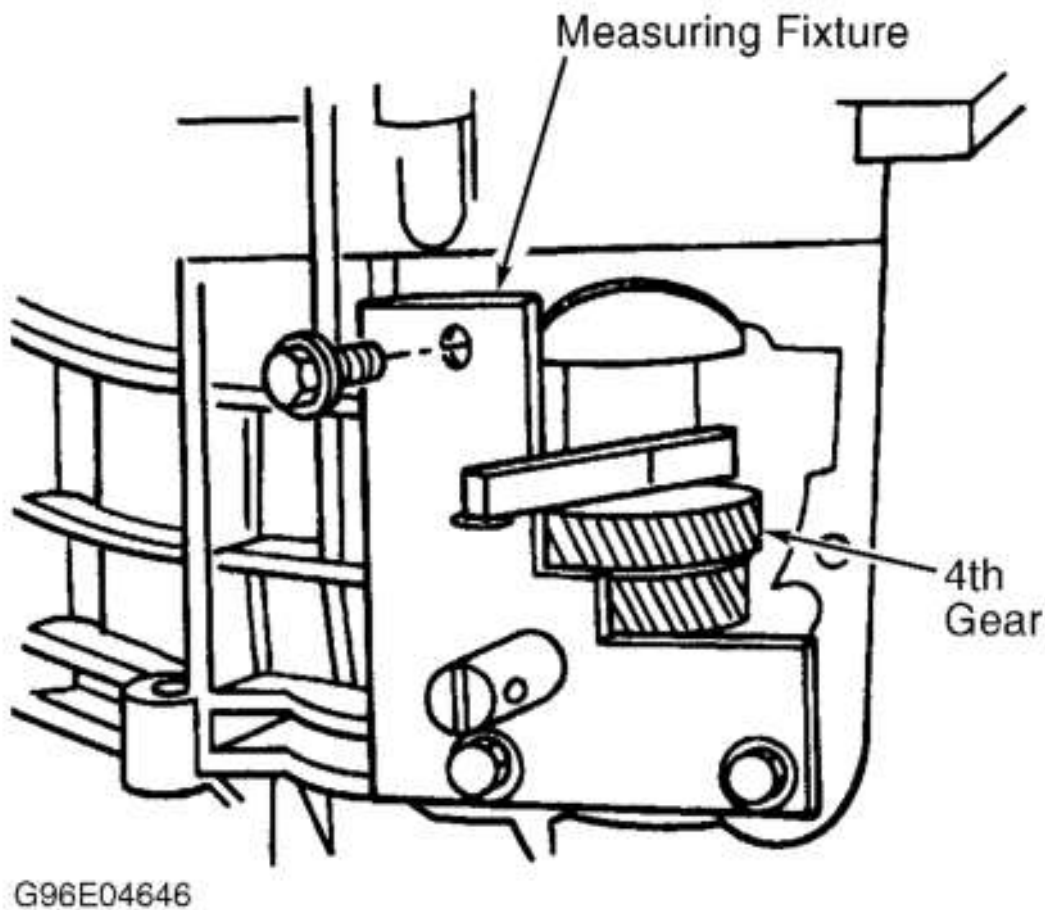

Fig. 13: Installing Output Shaft End Play Measuring Fixture
6. Place clutch housing onto transaxle case. DO NOT apply sealant to case halves at this time. Install transaxle case bolts and tighten to specification. Install Measuring Fixture (T94P-4451-AH) to transaxle case at control select lever cover opening. See **Fig. 13**. Position measuring bar on 4th gear face.